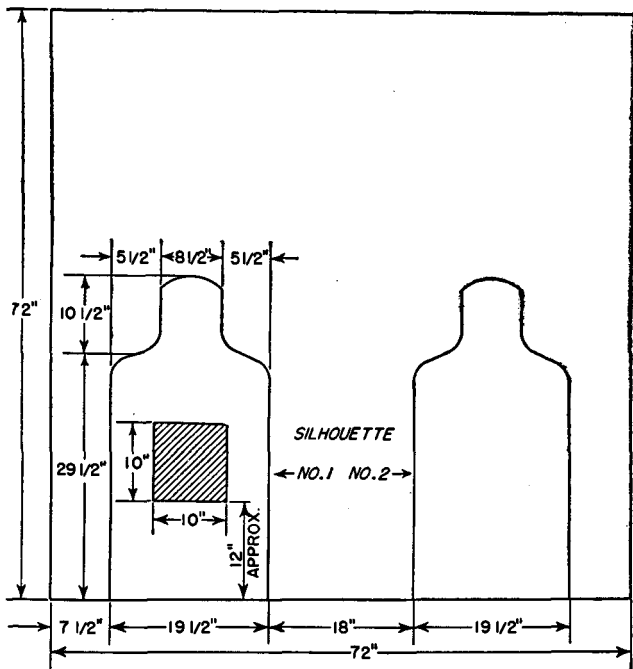

Figure 122. Target used for instruction firing on an aiming point (table VI).
a. Instruction for firing on a silhouette target, using an aiming point, is given on the known-distance range in much the same manner as for known-distance firing. The target is made locally by pasting two paper E kneeling silhouette targets (ORD Stock No. L001-60-06874) 18 inches apart and equidistant from the center of the target panel on a blank target frame. Approximately in the center of the left silhouette, paste or stencil an aiming point at least 8 inches in diameter. A sheet of white letter size paper (8" x 10½") serves very well with the lower edge 16 inches above the bottom of the silhouette (fig. 122).